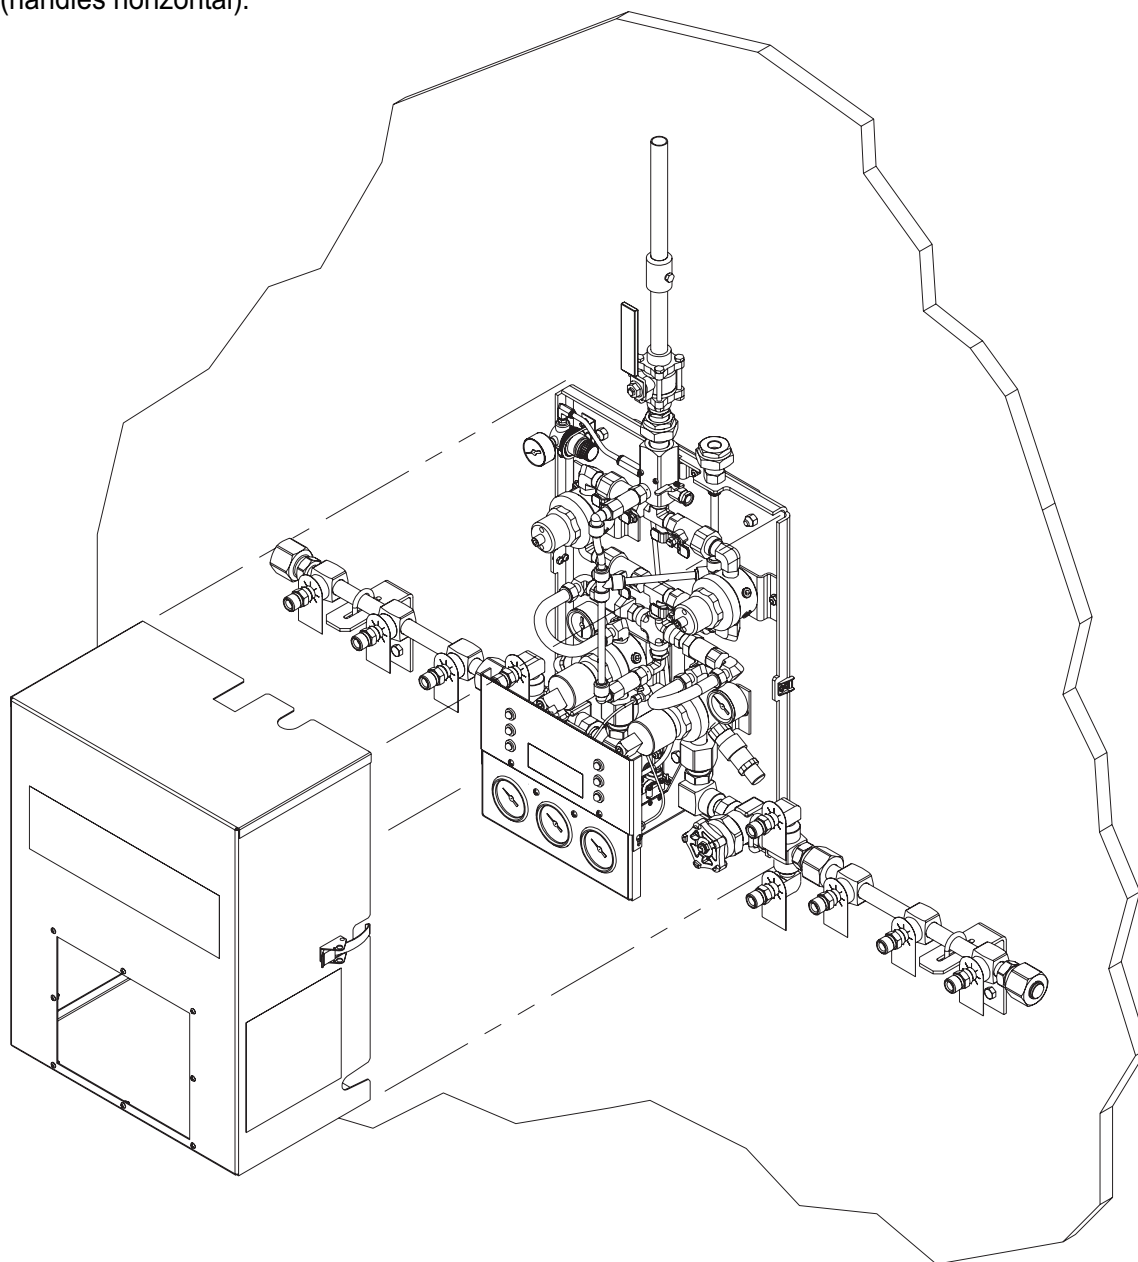

Figure 13
1. Release two latches on sides of manifold control panel cover (one on each side). Remove cover as shown in Figure 13.